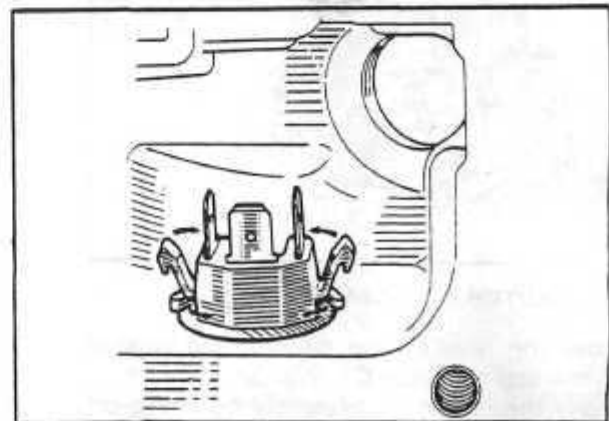

Fig. 32 SEALED SOCKET PLUG
8. Remove the sealed socket from the case by pressing the two (2) plug retaining lugs together and pushing on the socket. Fig. 32